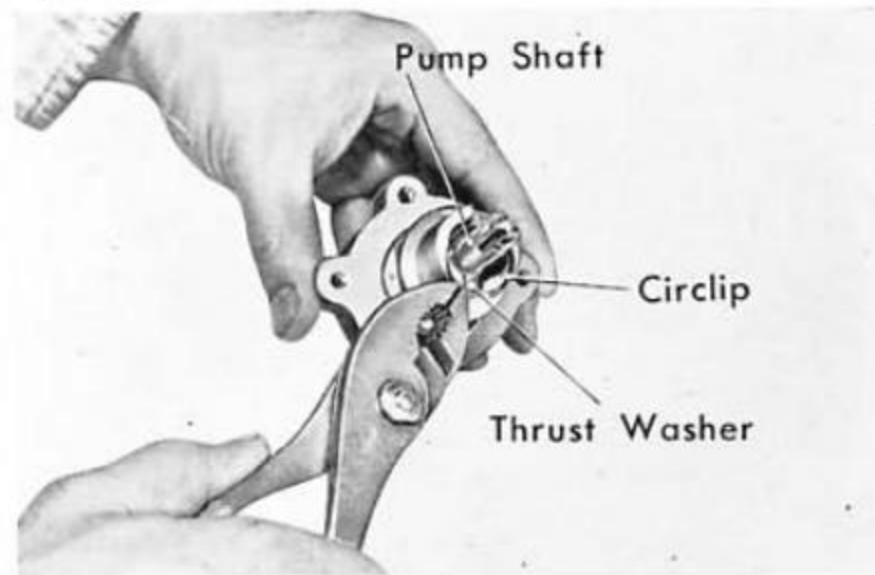

Fig. 1J-6
3. Remove the oil pump setting bolts and washers (Fig. 1J-3).